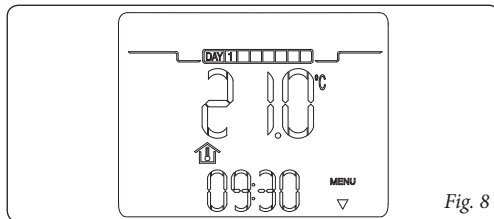

Fig. 8
- **Stand-by/anti-freeze mode (*).** In this mode, the boiler can only function in the event of anti-freeze request. In this state, the day, current time, any functioning anomalies and the room temperature are displayed (fig. 8).